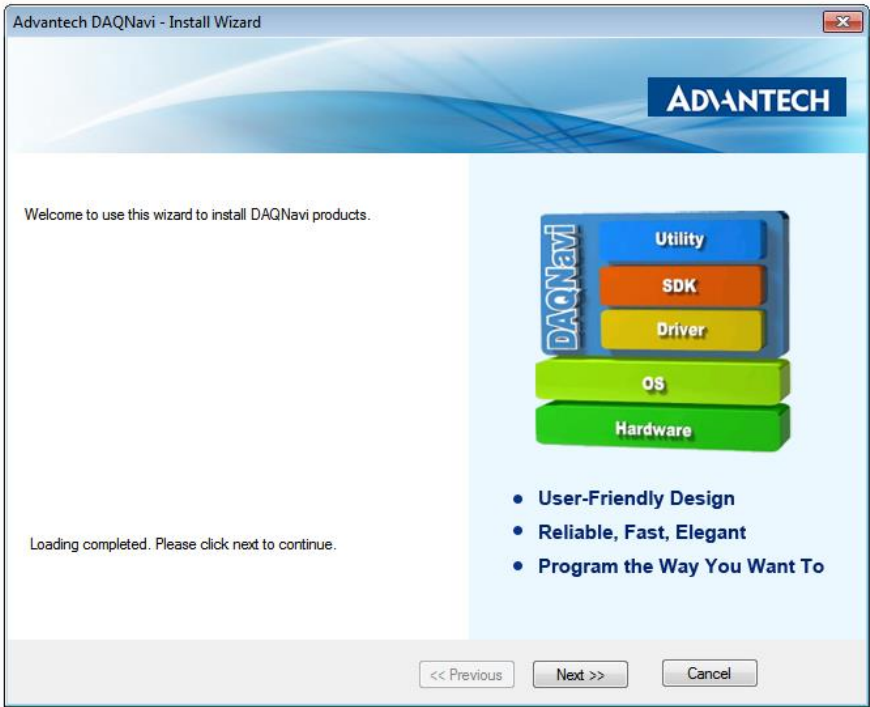

Figure 3 Installation Element Selection Window
2. To install the software select 'Install DAQNav'. The following window will appear (Figure 3)